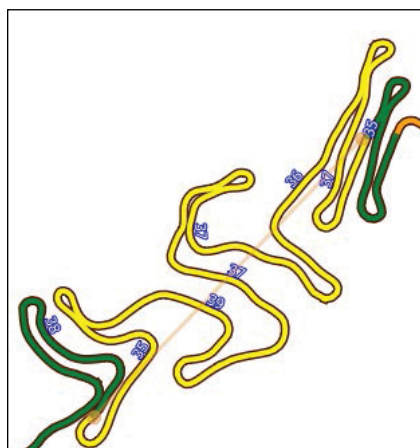

Figure 1. Concept of Tortuosity
- 1 Bhaduri (1992) had introduced the concept of tortuosity. Tortuosity (of a section of road) is defined as the ratio of length of the road section to the straight distance between the starting point and the end point. Figure 1 illustrates the concept of tortuosity.